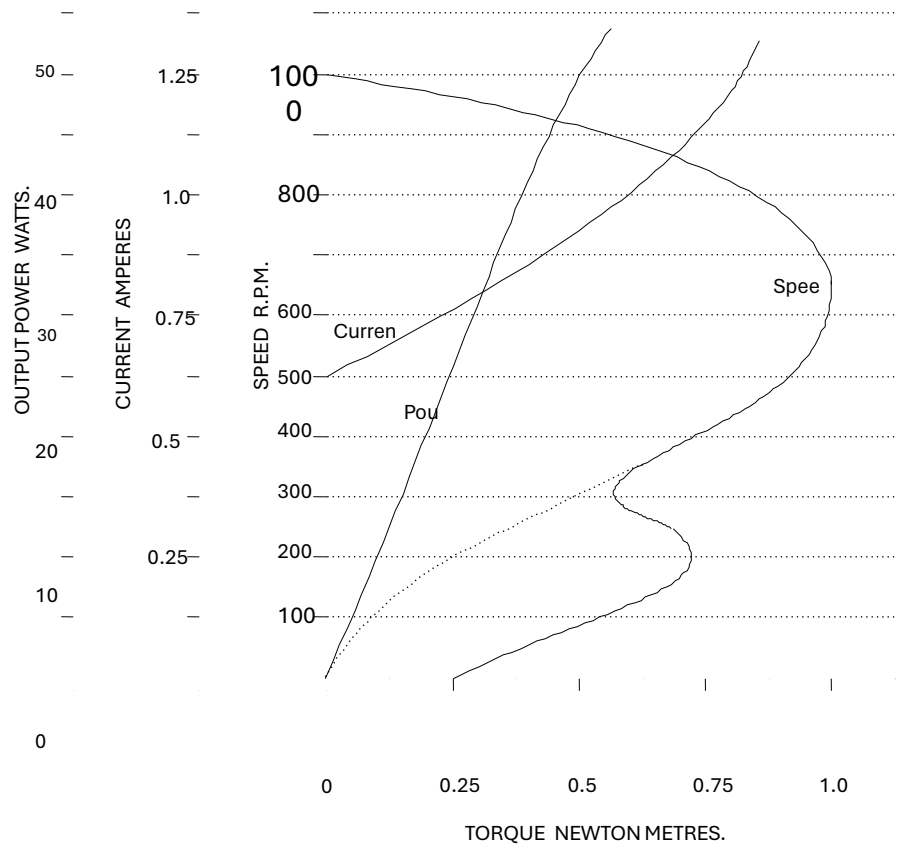

Figure 1.
1. The performance curves for a 240V, 50Hz, 45 watt single phase motor are shown below in Figure 1. From these curves estimate the following:-